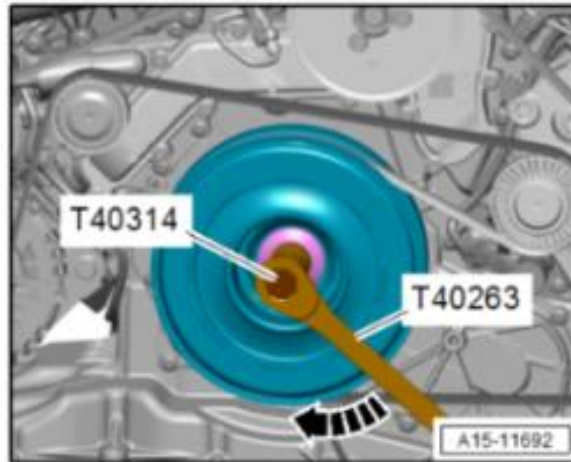

Figure 7. Turning in the direction of engine rotation.
4. With the drive plate disconnected from the flywheel turn the crankshaft 360° in direction of the engine rotation arrow (Figure 7). Inspect the drive plate while turning to ensure that it is not bent.